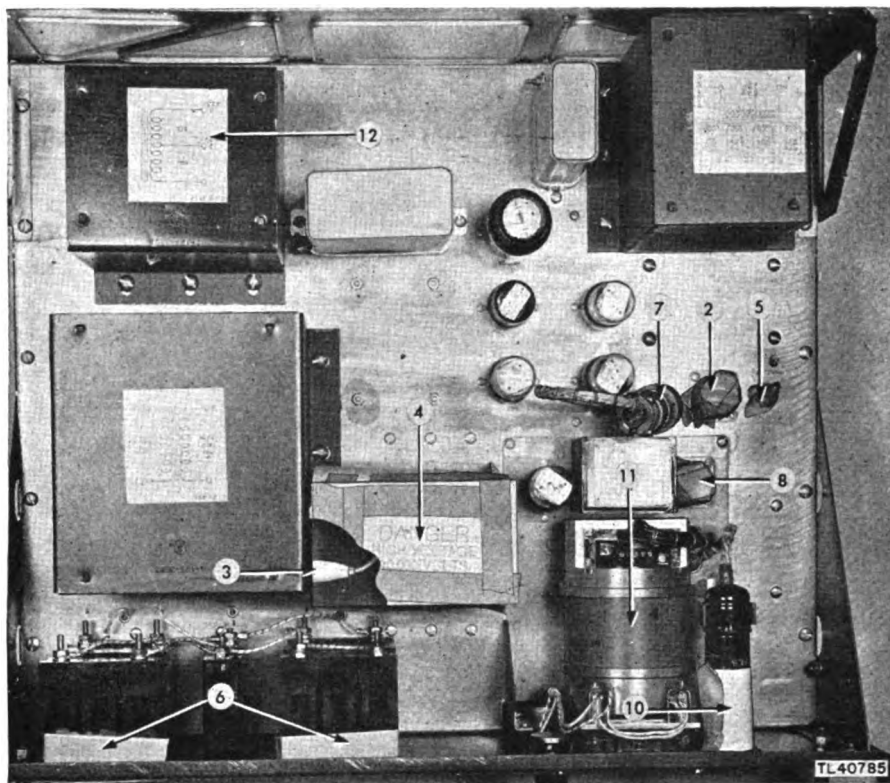

Figure 51. Indicator I-221-A—top view showing masked parts.
*d. STEP-BY-STEP INSTRUCTIONS FOR INDICATOR I-221-A.* (1) *Disassembly.* Loosen the four knurled captive screws on the front panel and pull the chassis out of the rack.
(2) *Masking* (figs. 51 and 52).